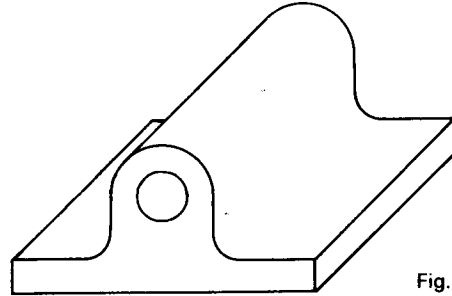

Fig. 3.69
6. Make three-view drawings of the objects shown in Figs 3.69, 3.70, 3.71, 3.72, 3.73 and 3.74. You may use either first- or third-angle projection.